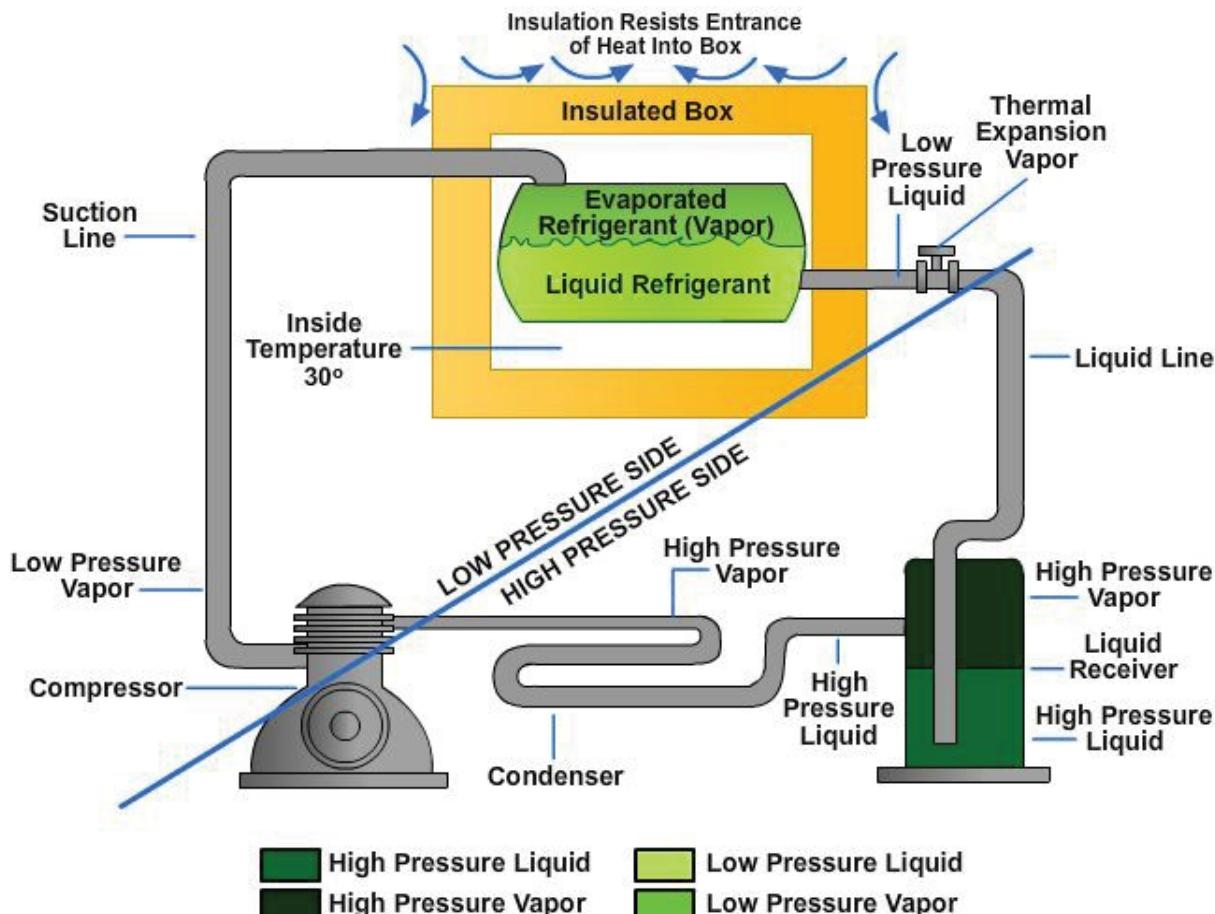

Figure 12-12 —Refrigeration cycle.
Every mechanical refrigeration system operates at two different pressure levels. The dividing line is shown in *Figure 12-12*. The line passes through the discharge valves of the compressor on one end and through the orifice of the metering device or expansion valve on the other.
The refrigeration cycle of a mechanical refrigeration system may be explained by using *Figure 12-12*. The pumping action of the compressor (1) draws vapor from the evaporator (2). This action reduces the pressure in the evaporator, causing the liquid particles to evaporate. As the liquid particles evaporate, the evaporator is cooled. Both the liquid and vapor refrigerant tend to extract heat from the warmer objects in the insulated refrigerator cabinet. The ability of the liquid to absorb heat as it vaporizes is very high in comparison to that of the vapor. As the liquid refrigerant is vaporized, the low-pressure vapor is drawn into the suction line by the suction action of the compressor (1). The evaporation of the liquid refrigerant would soon remove the entire refrigerant from the evaporator if it were not replaced. The replacement of the liquid refrigerant is usually controlled by a metering device or expansion valve (3). This device acts as a restrictor to the flow of the liquid refrigerant in the liquid line. Its function is to change the high-pressure, subcooled liquid refrigerant to low-pressure, low-temperature liquid particles, which will continue the cycle by absorbing heat.
Although the receiver is indicated as part of the refrigeration system in *Figure 12-12*, it is not a vital component. However, the omission of the receiver requires exactly the proper amount of refrigerant in the system. The refrigerant charge in systems without receivers is to be considered critical, as any variations in quantity affect the operating efficiency of the unit.
A liquid receiver, as shown in *Figure 12-12*, serves to accumulate the reserve liquid refrigerant, to provide storage for off-peak operation, and to permit pumping down of the system. The receiver also serves as a seal against the entrance of gaseous refrigerant into the liquid line.